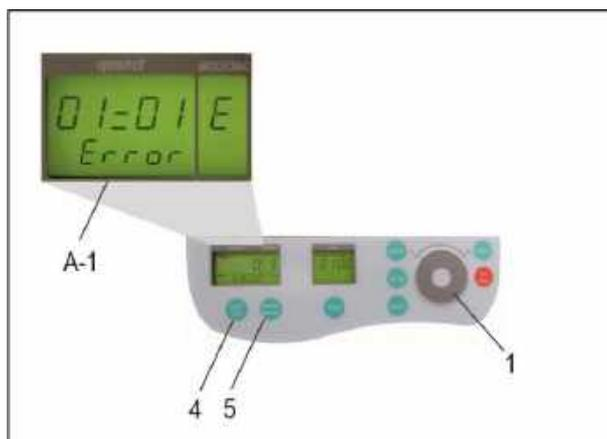

Figure 4
The list of the last 99 error messages can be looked over by pressing the key "rpm/rcf" (4) and leaf through it with the control field (1). The respective error codes appear in the display "rpm/rc" (A-1) (see Figure 4). The first two numbers indicate the appeared errors ongoing from 00 to 99, the last two numbers indicate the error code. Please refer to, "table 2: error messages" (see APPENDIX IV).